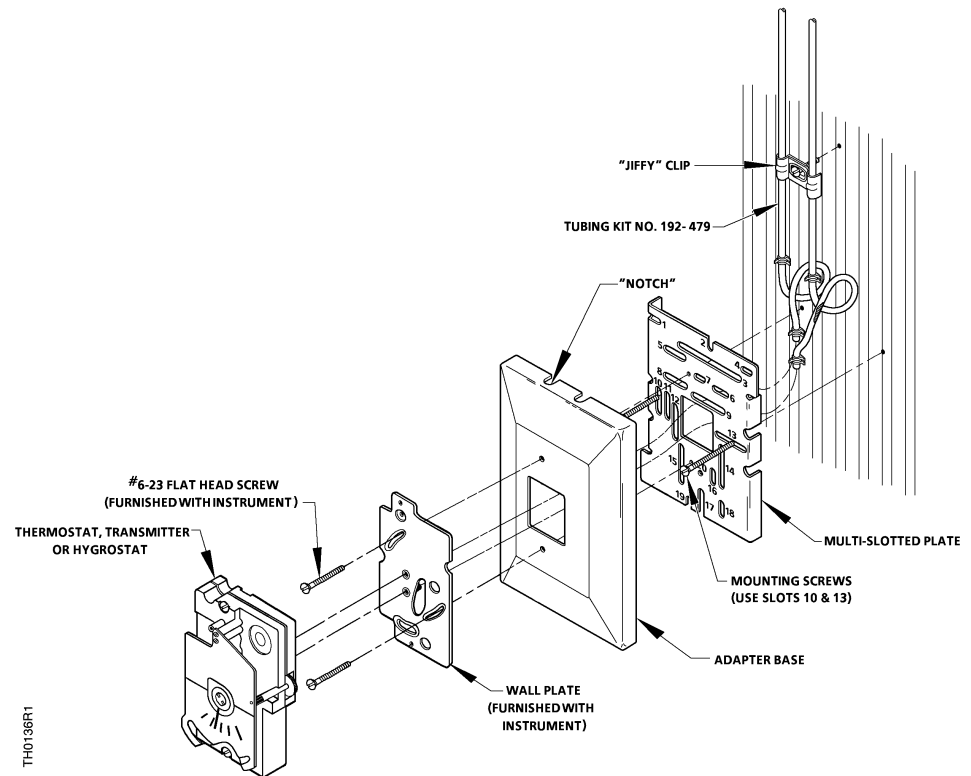

Figure 6. Exposed Piping Installation.
For exposed piping installations, use Kit 192-479 (See *Figure 17*) and Adapter Kit 192-483. See *Figure 6*.
3. Attach the multi-slotted metal plate to the wall using the screws and slots. See *Figure 6*.